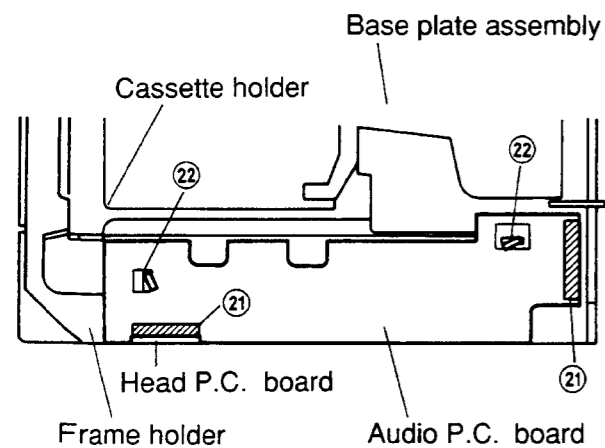

Figure 16
- (1) Remove two solders ⑳ and remove the parallel wire (7P) and the head P.C. board as shown in Figure 16.
- (2) Adjust the two claws ㉒ to the rectangular holes on the P.C. board and remove the P.C. board as shown in Figure 16.
- (3) After replacement, mount the new P.C. board following the removal steps in the reverse order.